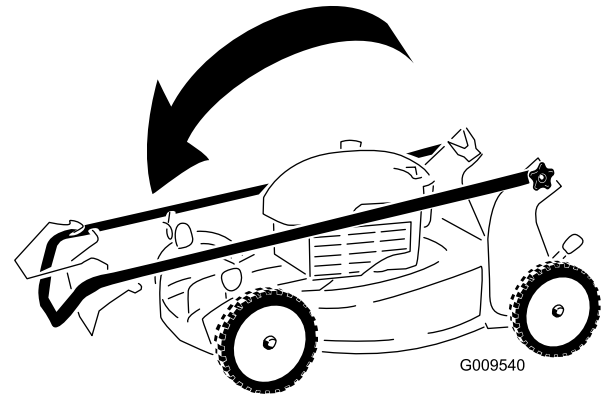

Figure 22
2. Fold the upper handle forward as shown in Figure 22.